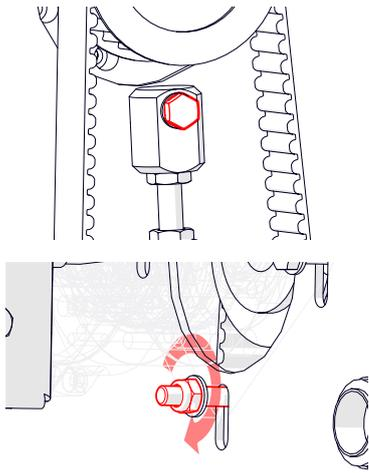

Fig.14I - Tighten the tensioner block/motor nut.
9. Tighten the nut supporting the tensioner block [2 x 13 mm spanner]- secure from the outside of the machine and tighten from the inside (Fig.14I).